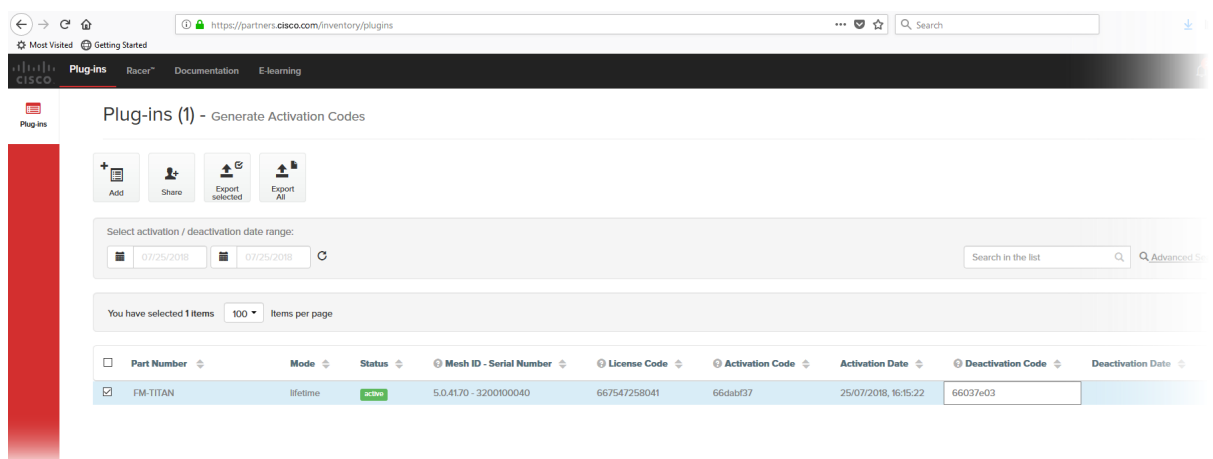

Figure 60. Partner Portal Plug-ins page (deactivation code entry)
8. Enter the Deactivation code for the plug-in in the Deactivation Code field (Figure 60 (page 114)).